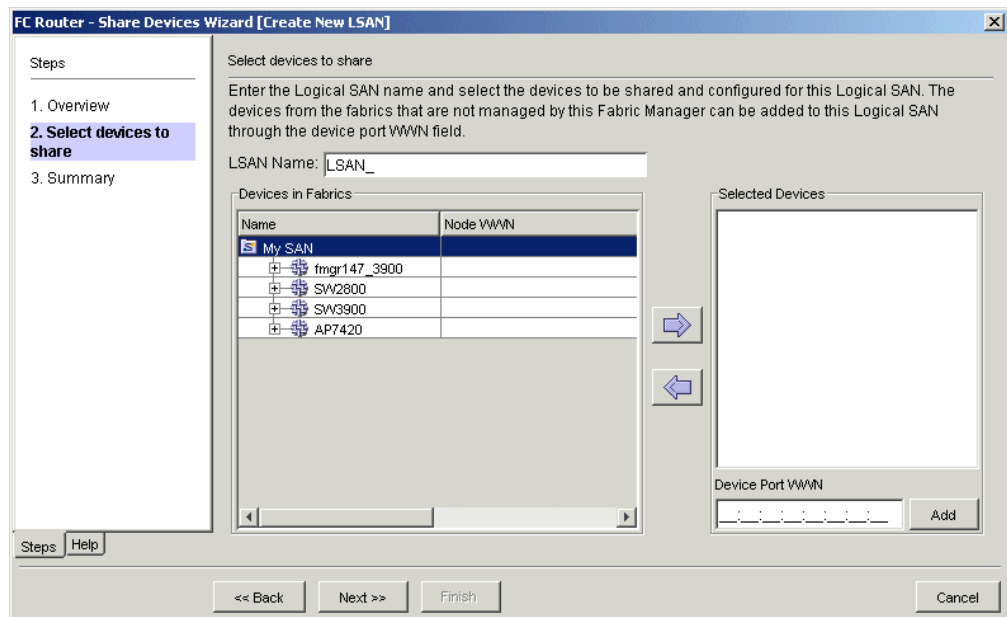

Figure 28: Selecting Devices to Share Dialog
3. The Select Devices to Share dialog box opens (Figure 28).